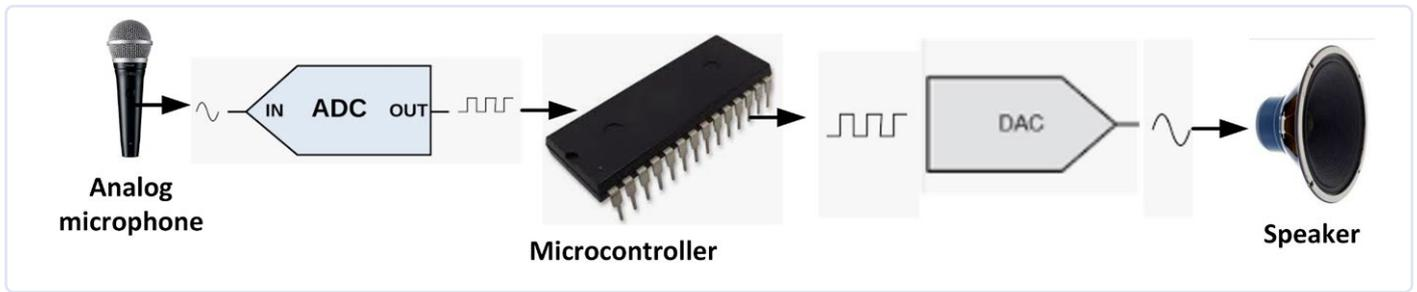

Figure 1: Conventional audio DSP system.
**Figure 1** shows the block diagram of a conventional audio DSP system which does not use the I2S bus. Here, the audio signal is received from an analog microphone. This signal is then converted into digital form using an ADC. The resulting digital signal is then fed to a microcontroller, which processes this digital signal. At the end, the signal is converted back into analog using a DAC converter and is fed to a speaker. An analog amplifier is usually used (not shown) to increase the signal level for the speaker. In most low frequency applications, the ADC and DAC can be part of the microcontroller. In high-speed and high-quality applications, it may be necessary to use external professional quality ADC and DAC converters.